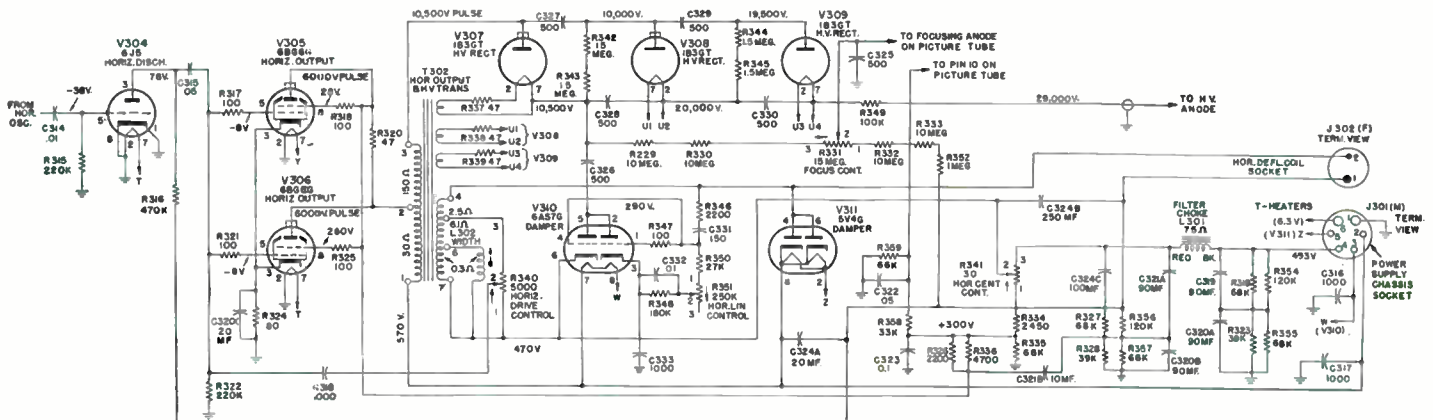

Fig. 8. Horizontal sweep circuit used in KRS-20 horizontal deflection chassis.
2. Removed the third 1B3-GT tube (V 309), two 1.5 meg. resistors R 344 and R 345, and two 500 mmfd 10KV capacitors C 329 and C 330. These were the components which tripled the high voltage as shown in Fig. 8. The 100 K resistor R 349 was transferred from the filament of the third 1B3-GT tube (V 309) to the filament of the second 1B3-GT (V 308). The rest of the voltage doubler circuit was not changed.